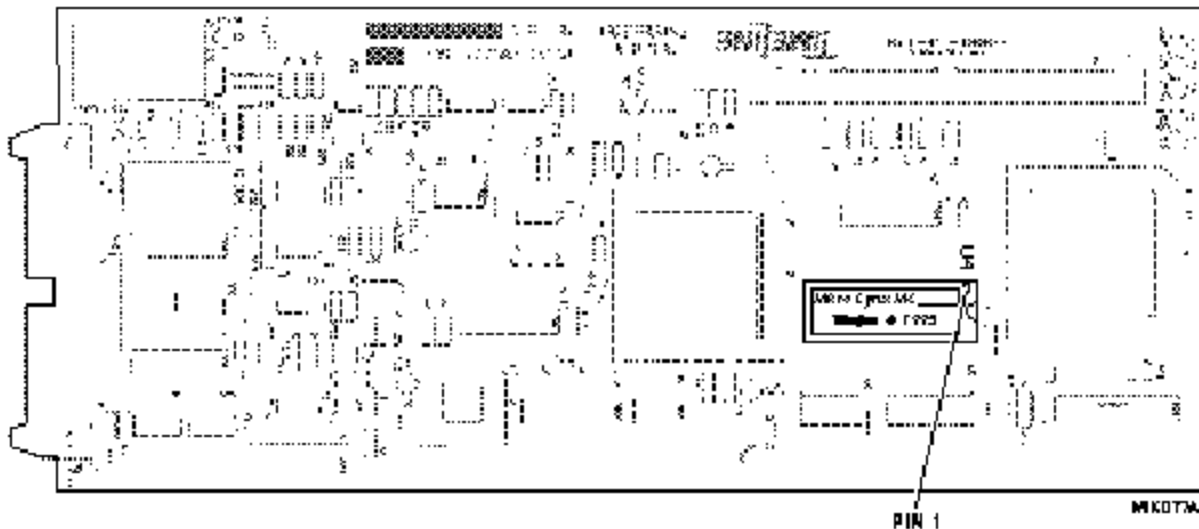

Figure 3. M3 PROM Location
5. Locate U4, the M3 PROM. Remove and replace the PROM. Be careful to correctly align Pin 1 and properly seat the PROM, see Figure 3.